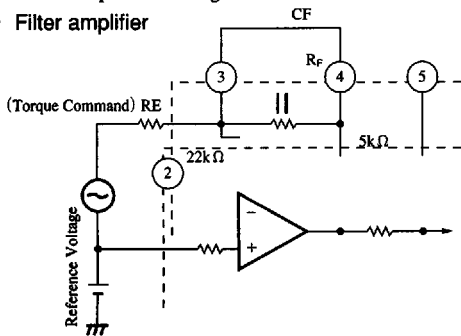

Fig.6 Ripple Filter
- This IC incorporates an operational amplifier. When a torque command is PWM input, it is used as a ripple filter. (Refer to Fig.6) In case of linear input, it is available as a phase compensating amplifier, etc.
(7) PV_{CC} noise elimination